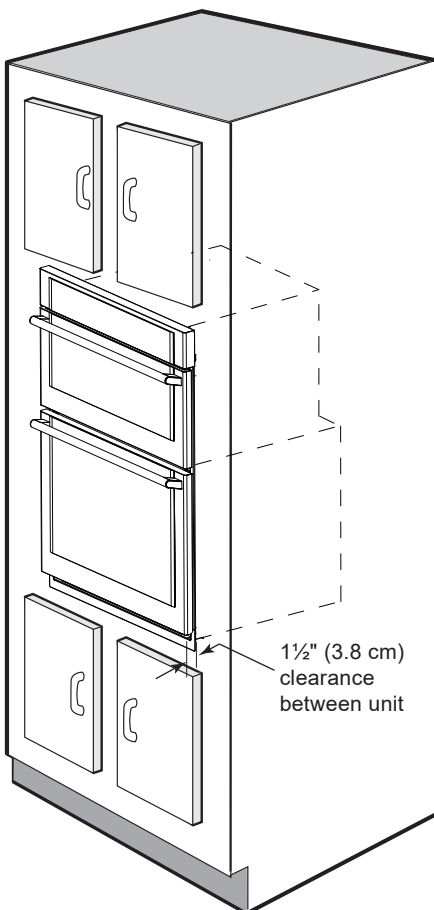

Figure 7: Cabinet Installation
3. Insert the oven into the cabinet opening. Slide oven inward leaving 1½" (3.8 cm) clearance between the oven and front of cabinet (see Figure 7).